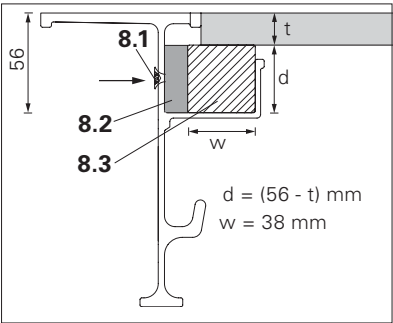
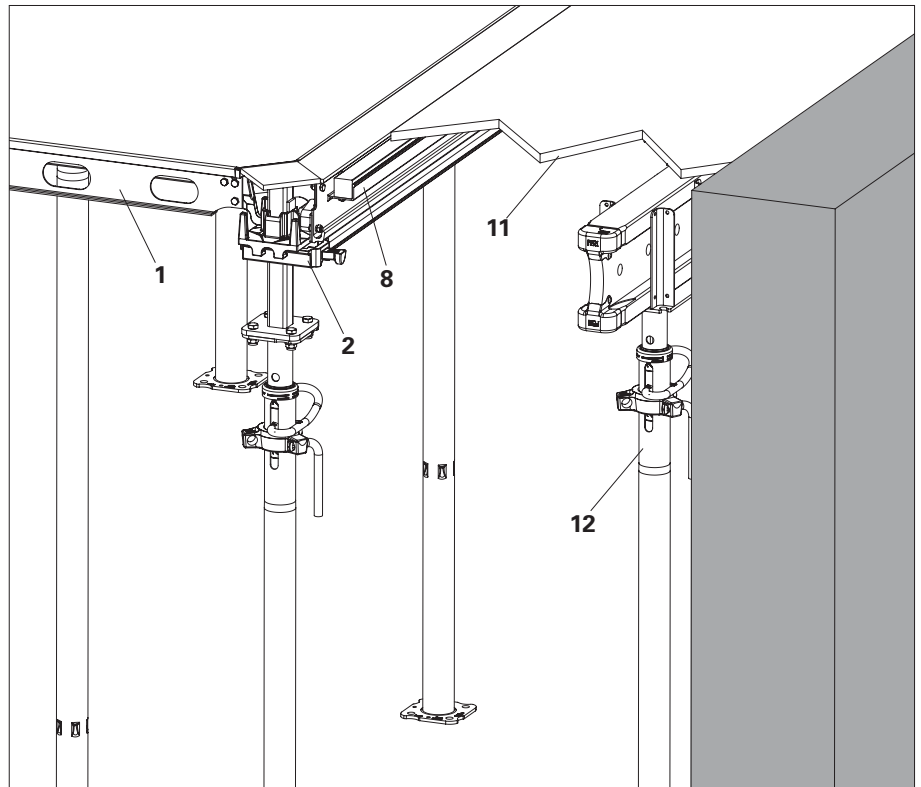

Fig. A7.01a
Fig. A7.02
- 1. Form the slab with Panel ADP (1) as far as possible, see Section A5 - Shuttering.
- The filler beam ADF (8) is compatible for plywood thickness (t) ranging from 12 mm to 18 mm by varying the timber insert (8.3) size. (Fig. A7.01a)
- Infill size up to 60 cm and the no. of supports (12) depend on slab thickness and plywood type (E-modulus and direction of grain). This needs to be checked by contractor.
- Use torx screw 6 x 40 mm (8.1) article no. 024540 to secure the timber insert (8.3) with 12 mm packing (8.2). at every 60 cm c/c. (Fig. A7.01a)
- Timber insert (8.3) is not included in the Filler Beam ADF (8).
3. Place the Filler Beam ADF (8) on the drophead flyplate pin. (Fig. A7.02)
5. Erect additional prop with Crosshead and Girder VT 20 (12).
6. Continuously fill the compensation area with Plywood (11).
7. Secure the Plywood (11) on top with nails. (Fig. A7.02)